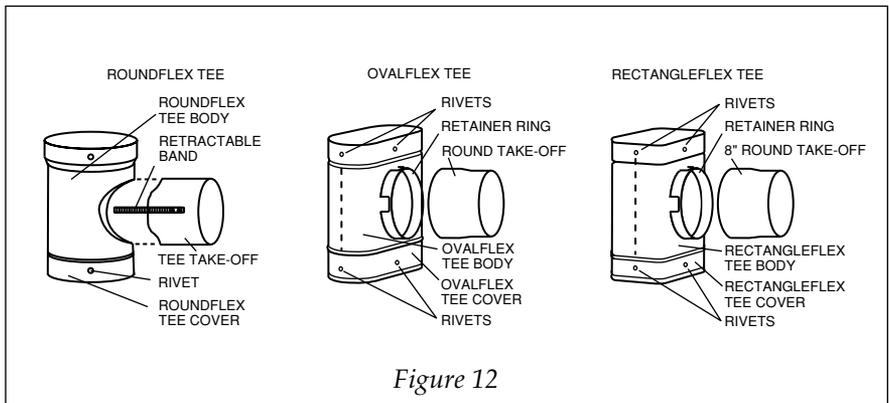

Figure 12
6. The tee will need a cover. Place the cover over the outside of the bottom end of the tee. Use the four stainless rivets supplied with the cover and fasten the two parts together (figure 12, below).